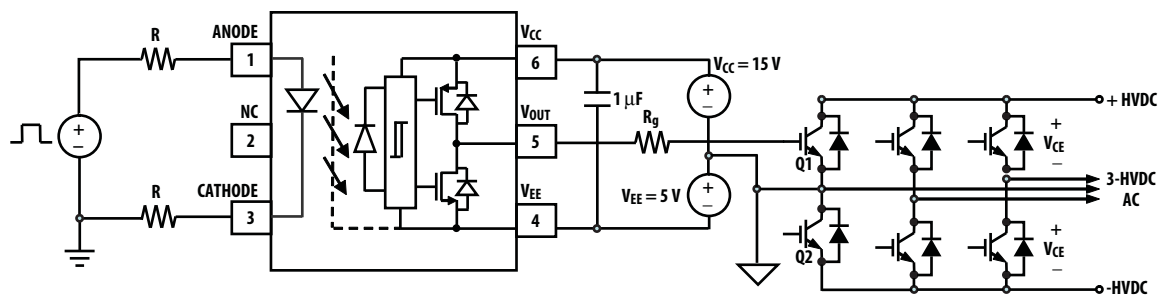

Figure 22. Recommended application circuit with split resistors LED drive
The recommended application circuit shown in Figure 22 illustrates a typical gate drive implementation using the ACPL-P340. The following describes about driving IGBT. However, it is also applicable to MOSFET. Designers will need to adjust the V_{CC} supply voltage, depending on the MOSFET or IGBT gate threshold requirements (Recommended $V_{CC} = 15\text{ V}$ for IGBT and 12 V for MOSFET).
Step 1: Calculate Rg minimum from the I_{OL} peak specification. The IGBT and Rg in Figure 22 can be analyzed as a simple RC circuit with a voltage supplied by ACPL-P340/W340.
The ACPL-P340/W340 includes a Propagation Delay Difference (PDD) specification intended to help designers minimize “dead time” in their power inverter designs. Dead time is the time period during which both the high and low side power transistors (Q1 and Q2 in Figure 22) are off. Any overlap in Q1 and Q2 conduction will result in large currents flowing through the power devices between the high and low voltage motor rails.